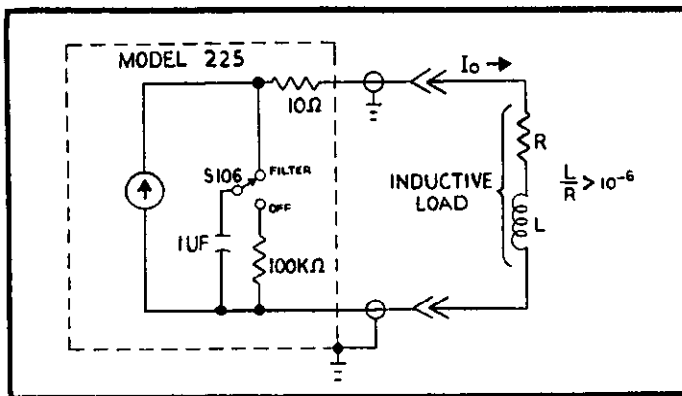

FIGURE 8. Inductive Load.
3. Inductive Load. The instrument can be used to deliver current to an inductive load. When the ratio of load inductance L to load resistance R is greater than 10^{-6} , the FILTER Switch must be set to "ON" for stability. The FILTER Switch connects a $1 \mu F$ capacitor across the output as shown in Figure 8.